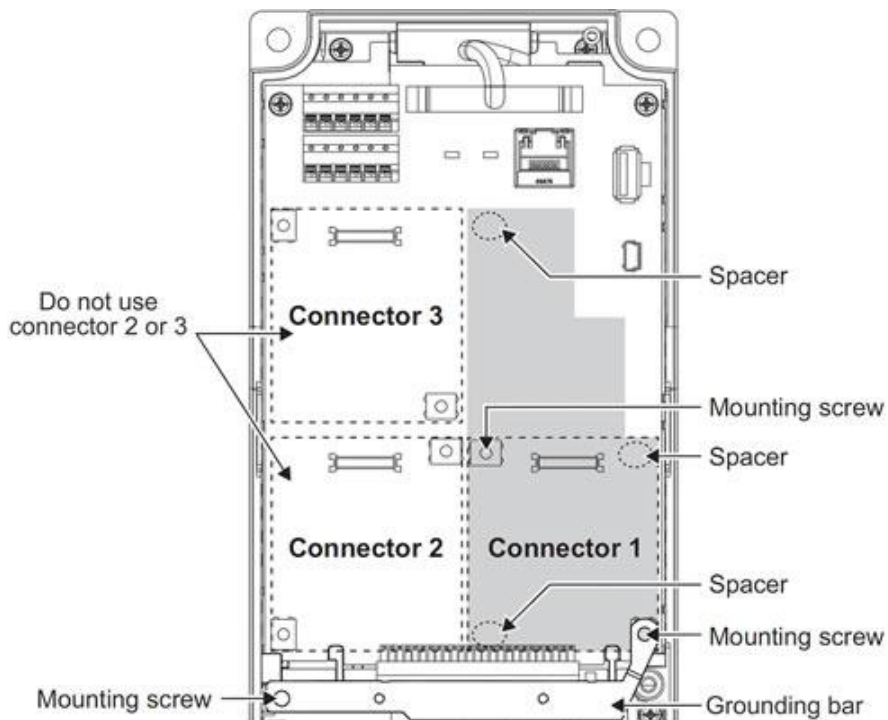

Figure 1: Installation Positions of Screws and Spacers
- 2) Securely attach the option card to the inverter's option Connector 1 (refer to Figure 1 on page 33 for the location of Connector 1 on the inverter's control board). Ensure that the option card is fully seated on the inverter's option connector.
- The plug-in option must only be installed on the inverter control board's option Connector 1 (refer to Figure 1 on page 33.) If installed onto the Connector 2 or Connector 3 positions, the inverter will fault with an E.2 or E.3 fault code.